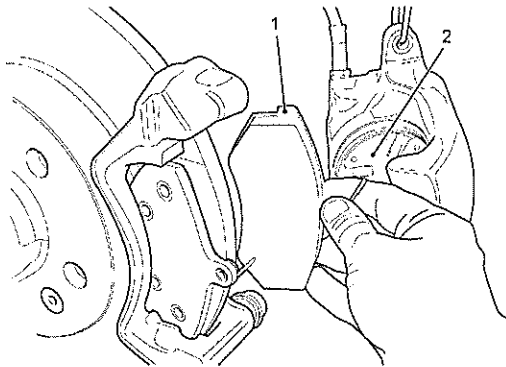

Fig 9 Inserting brake pads
20 Clean pad guiding surfaces and mount new brake pads. Guiding catches (see Fig 9 (1)) of lining support plates must rest on slideway of brake anchor plate and be freely movable. Push back piston completely and insert damping plate (2).